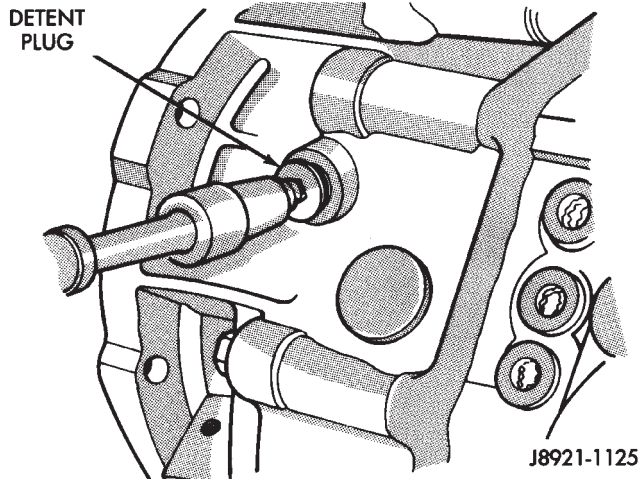

Fig. 49 Install Detent Ball Plug
(18) Install detent plug and tighten to 19 N·m (14 ft. lbs.) (Fig. 49).